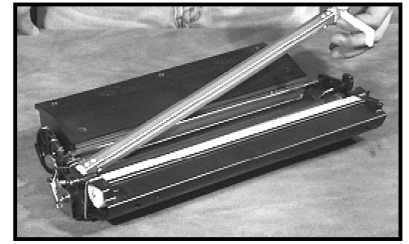

Figure 4
5. Use the wire cutters to remove the varistor located on the corona wire assembly (fig.4).